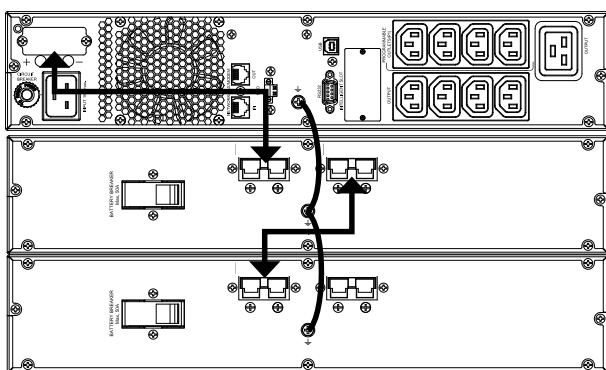

Fig. 10. Connection to battery modules.
- Fig. 10 shows the connection of a 3 kVA device in a rack arrangement with two battery modules. For a larger number, proceed in a manner similar to those shown in the illustration.